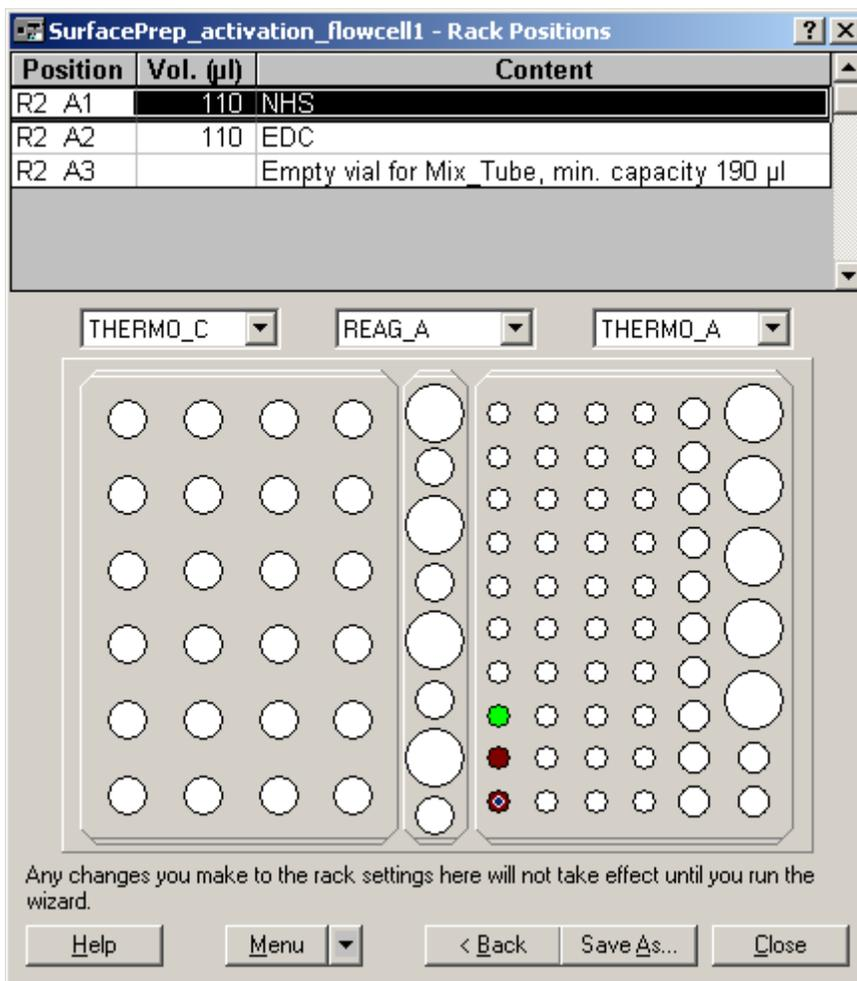

Figure 2.13
- 2.16.1 Place 110 μ L of NHS and EDC into 7 mm polypropylene vials and an empty vial into the rack positions displayed in figure 2.13. (The location of each reagent can be changed by the 'Drag and Drop' method (Hold the left mouse key to drag and drop).